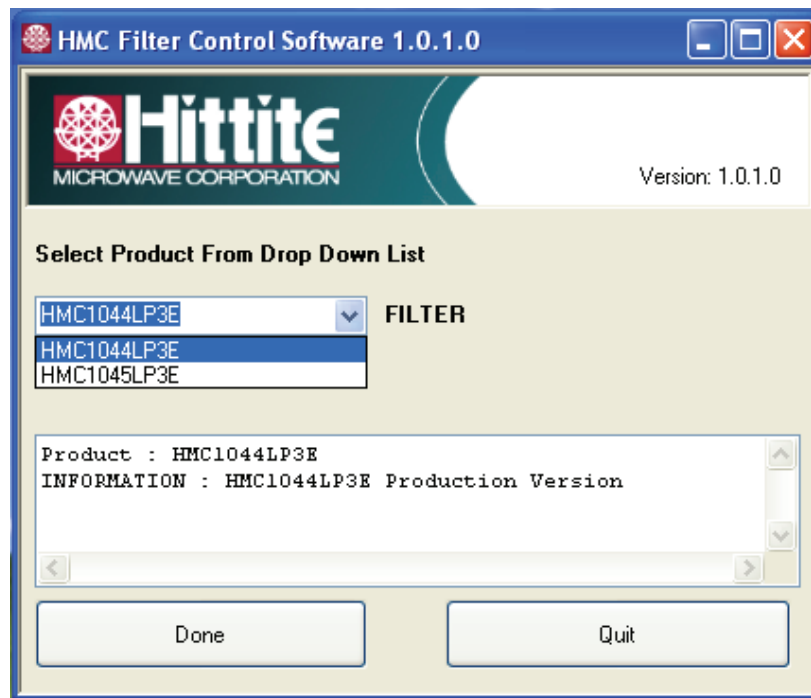

Figure 3. Filter Product Selection Window
3. Launch Filter Evaluation Software by selecting on “Hittite Filter Eval Software Vxxxx.exe” from the Program Files menu of your computer. The Filter product selection window should open. From the drop down list, select HMC1044LP3E or HMC1045LP3E, see Figure 3 below